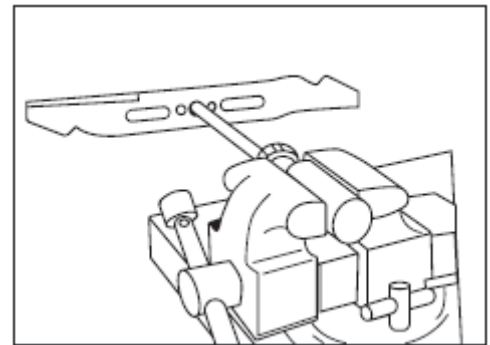

Fig. 18
- The blade is balanced when neither end sinks (see Fig. 18).